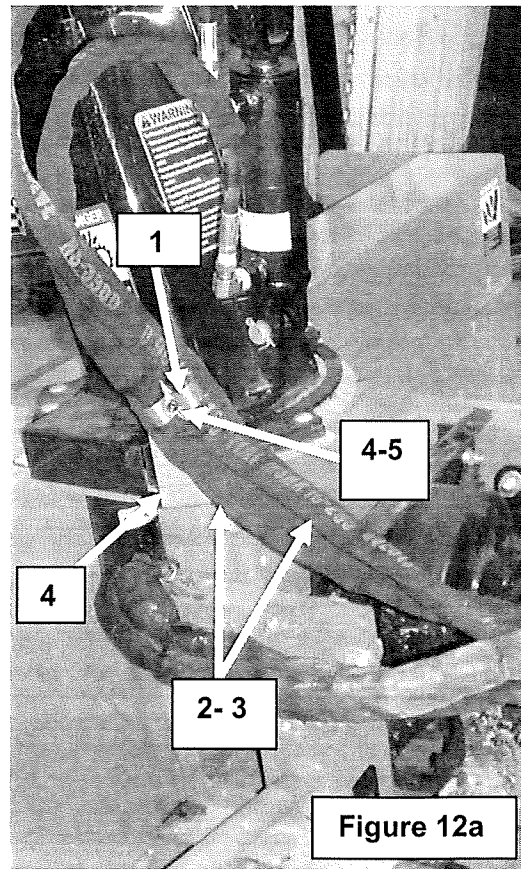

Figure 12a
13. **Figure 12a:** Lower the snowblower to the maximum (see the "Handle Control Function" Table on page 22). Use the house clamp (item 1) to fix the hydraulic deflector hoses (items 2-3) to the hose support (item 4) and secure with a 1/4"NC x 1" lg socket head cap screw and a 1/4"NC nylon insert locknut (items 4-5). Verify if you can turn the chute completely to the right and the left (see the "Handle Control Function" Table on page 22). If not, add more hose length on the deflector side.